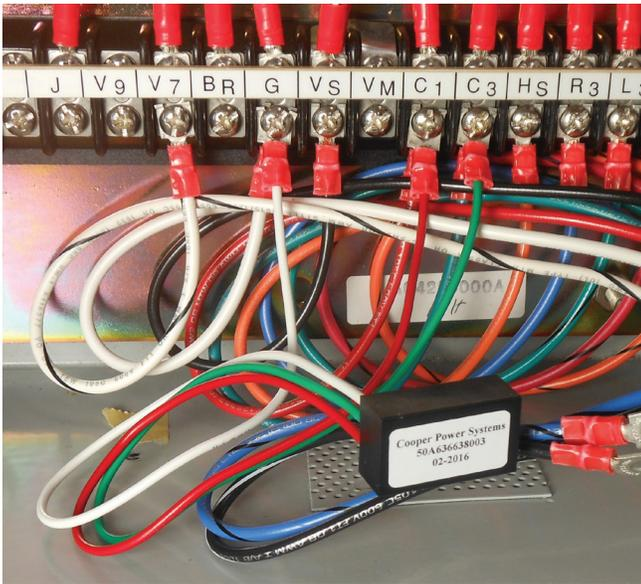

Figure 10. CT protection device installed in fanning-strip style control box.
A. In a fanning-strip style control box (Figure 10):